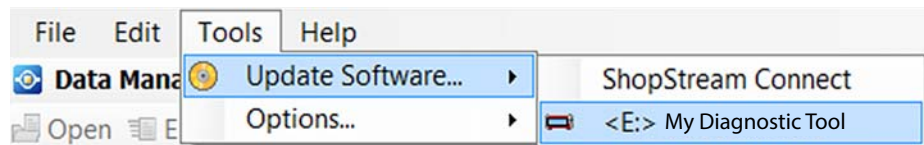

Figure 12-11
1. Select **Tools > Update Software >** (diagnostic tool type - e.g. ETHOS Edge, MODIS Edge, SOLUS Edge, etc.) from the Menu bar (Figure 12-11).